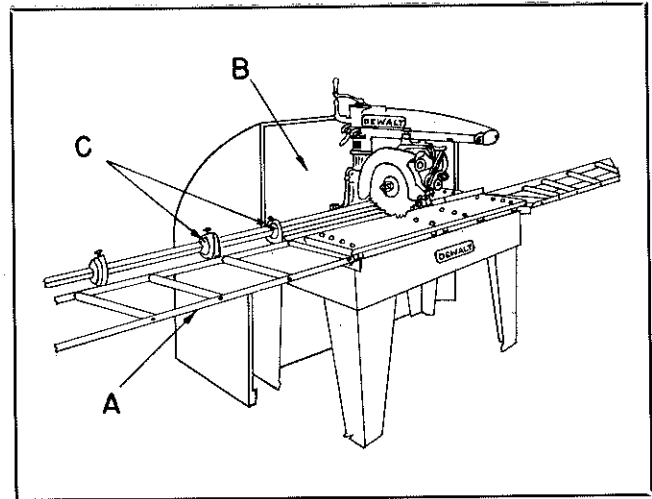

FIGURE 3
To confine sawdust, construct a dust hood similar to the dust hood (B) shown in figure 3. The dust hood was designed to confine a large percentage of the sawdust that normally results from the opera-
tion of a DeWalt Radial Arm Saw. For further information about the construction of a dust hood such as the one shown in figure 3, write to Department D, DeWalt Inc., Lancaster, Pennsylvania.